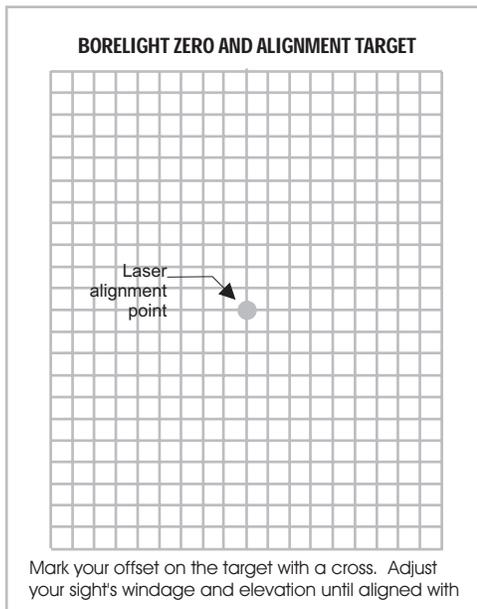

FIGURE 2-4
6. Rotate the borelight 90 degrees in a clockwise direction. See Figure 2-4 below.